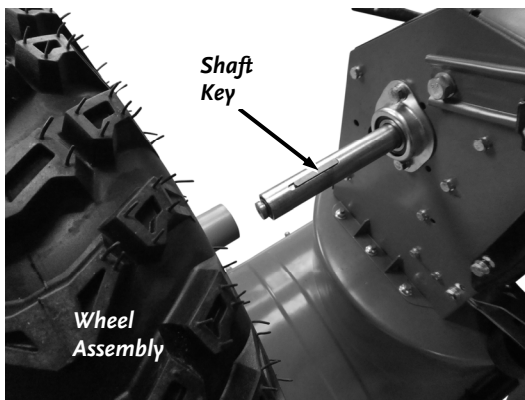

Figure 68
5. Remove both Wheels and Shaft Keys from the Axle Shafts (**Figure 68**).
12. Install both and Shaft Keys and Wheels onto the Axle Shafts (**Figure 68**).